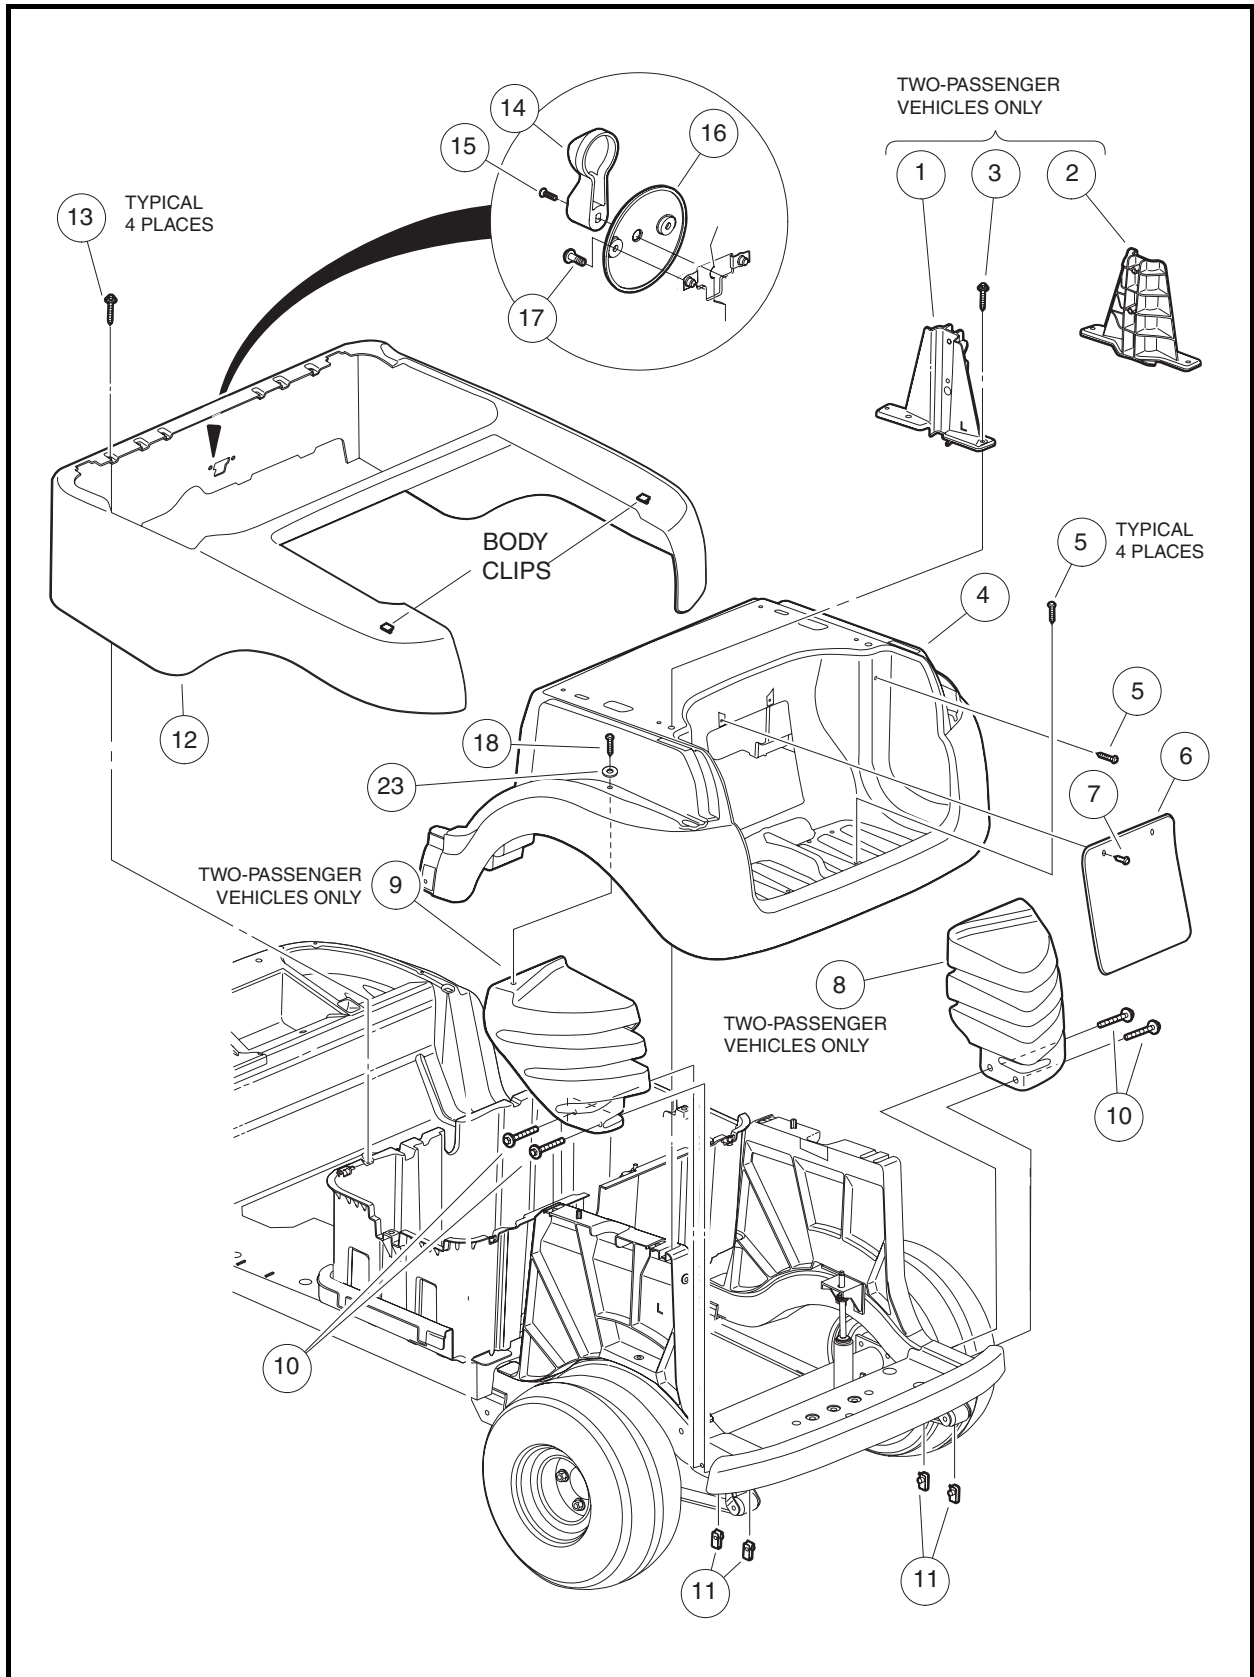

Figure 4-8 Rear Body Components
2. Remove one screw (3) from each canopy support bracket (1 and 2) (**Figure 4-8, Page 4-11**). Remove canopy supports.
3. Remove four screws (13) attaching the rear beauty panel (12) to the fuel bucket.
4. Remove screw (15) and remove shift handle (14) from vehicle.
5. Remove two screws (17) to remove shift cover (16) from rear beauty panel (12).
1. Install rear beauty panel (12) on vehicle. Make sure body clips on the rear of the beauty panel engage the mating slot in the rear underbody (4). Secure beauty panel in place with four screws (13). Tighten screws to 3.7 ft-lb (5 N·m) (**Figure 4-8, Page 4-11**).
2. Position the shift cover (16) on the front of beauty panel (12) and secure with two screws (17). Tighten screws to 22 in-lb (2.5 N·m).
3. Position handle (14) on shift mechanism. Secure handle in place with screw (15). Tighten screw to 14 in-lb (1.6 N·m).
4. Position canopy support brackets (1 and 2) on vehicle and secure each with one screw (3). Tighten screws to 53 in-lb (6 N·m).
Access panel (6) is secured to the rear underbody (4) with two expanding screws (7) (**Figure 4-8, Page 4-11**). When replacing the panel, tighten screws (7) enough to hold the panel in place.
1. Remove four screws (5) attaching the rear underbody (4) to vehicle (**Figure 4-8, Page 4-11**).
2. Remove two screws (18) and washers (23) that attach the underbody to the two liners (8 and 9).
3. Lift the rear edge of the rear underbody (4) until the front portion slides out from beneath the front underbody. Remove the rear underbody from the vehicle.
1. Install rear underbody (4) on the vehicle (**Figure 4-8, Page 4-11**). Install two washers (23) and screws (18) to secure the underbody to the two wheel liners (8 and 9) and install four screws (5) to secure the underbody to the vehicle. Tighten screws (5 and 18) to 3.7 ft-lb (5 N·m).
1. Remove bolts (10) to release liners (8 and 9) from vehicle (**Figure 4-8, Page 4-11**).
2. Remove four screws (13) attaching the rear beauty panel (12) to the fuel bucket (**Figure 4-8, Page 4-11**).
3. Remove screw (15) and remove shift handle (14) from vehicle.
4. Remove two screws (17) to remove shift cover (16) from rear beauty panel (12).
1. Install rear beauty panel (12) on vehicle. Make sure body clips on the rear of the beauty panel engage the mating slot in the rear underbody. Secure beauty panel in place with four screws (13). Tighten screws to 3.7 ft-lb (5 N·m) **(Figure 4-8, Page 4-11)**.
Access panel (6) is secured to the rear underbody (4) with two expanding screws (7) **(Figure 4-8, Page 4-11)**. When replacing the panel, tighten screws (7) enough to hold the panel in place.
1. Remove four screws (5) attaching the rear underbody (4) to vehicle **(Figure 4-8, Page 4-11)**.
2. Lift the rear edge of the rear underbody (4) until the front portion slides out from beneath the front underbody. Remove the rear underbody from the vehicle.
1. Install rear underbody (4) on the vehicle **(Figure 4-8, Page 4-11)**. Install four screws (5) to secure the underbody to its vehicle. Tighten screws (5 and 18) to 3.7 ft-lb (5 N·m).